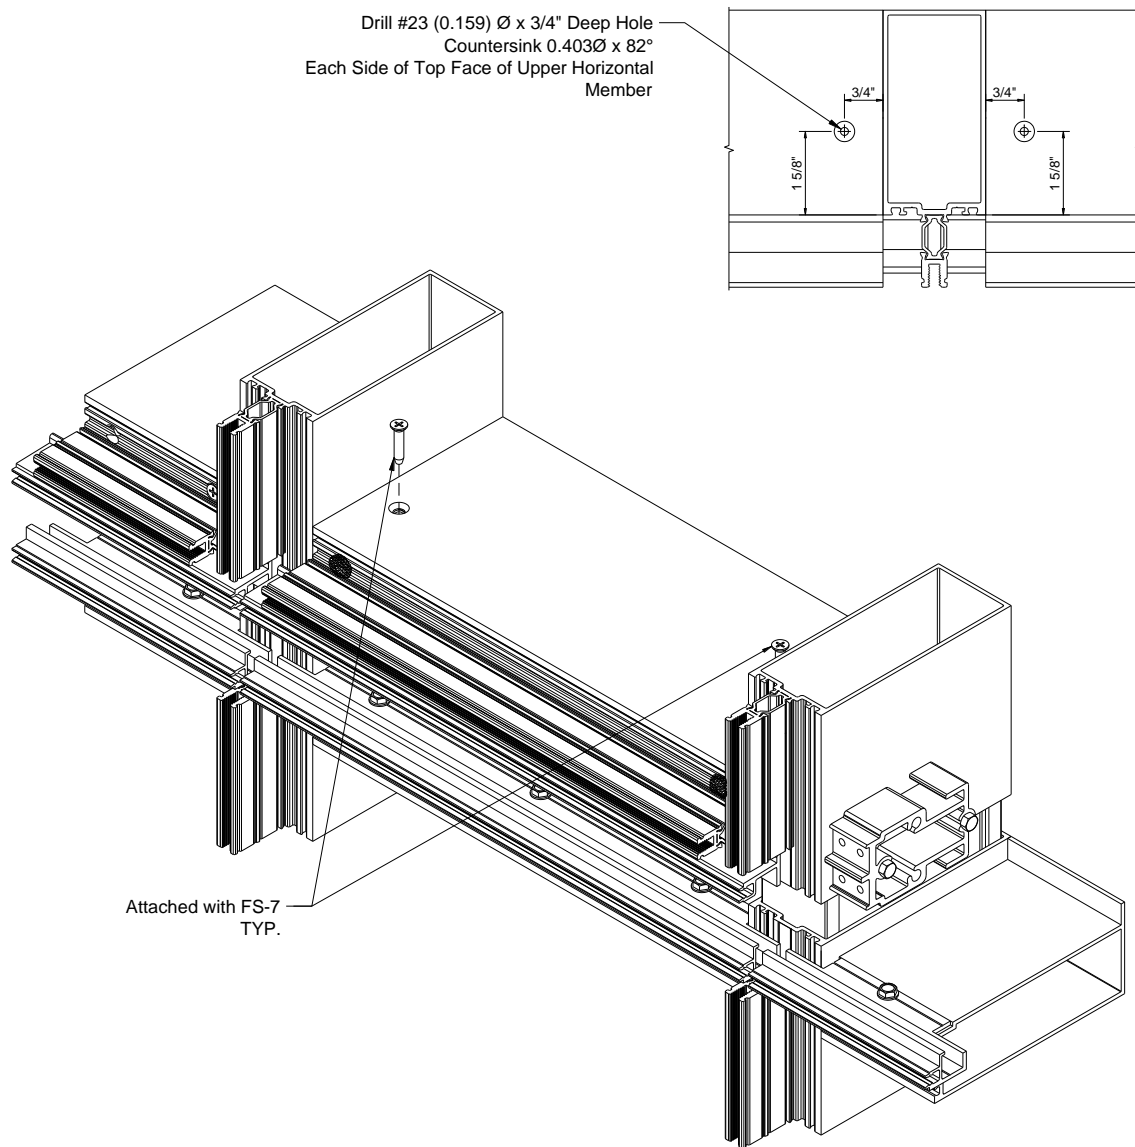

Figure 51: Upper Expansion Horizontal Shear Block Fastening
- 16.9 Drill #23 (0.159") \varnothing x 3/4" deep holes at both end of the upper Horizontal per *Figure 51*. Countersink to 0.403 \varnothing x 82° and attach with **FS-7** Fasteners at each end.